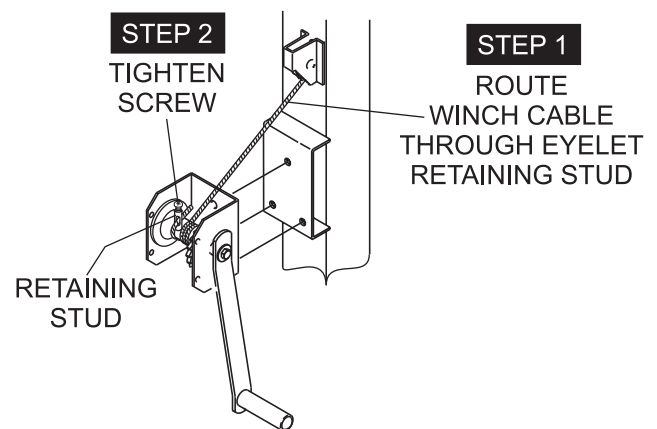

Figure 38. Connecting the Winch Cable to the Winch
10. Route the tip of the winch cable (Figure 38) through the eyelet retaining stud. Insert cable retaining screw at top of stud and tighten.